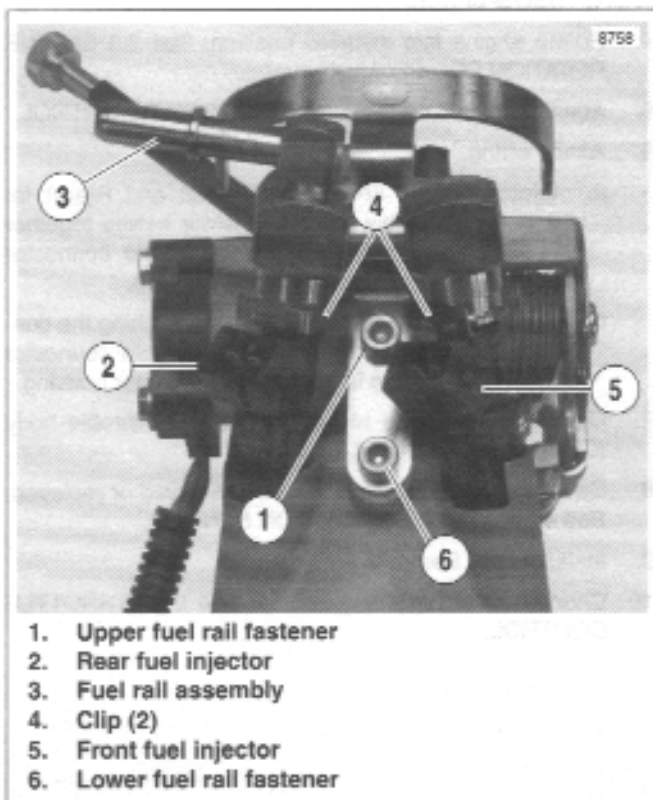

Figure 4-104. Fuel Injectors
1. See Figure 4-104. Remove upper fuel rail fastener (1).
5. See Figure 4-104. Apply a drop of LOCTITE THREAD-LOCKER 222 (purple) to threads of fuel rail fastener (1).
- a. See Figure 4-104. Remove both injector clips (4).
6. See Figure 4-104. Install fuel injectors.
- b. Press the fuel rail assembly (3) onto the top of the injectors.
7. Snap the injector clips (4) over the flange on the fuel rail outlet and into the top groove in the injector.